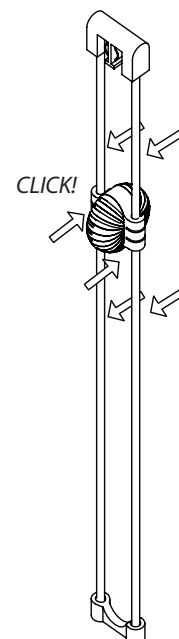

Fig. 7
3. Place the index and middle fingers of each hand on the hanger rods on either side of the Ladder Light and press firmly on both sides of the Ladder Light with the thumbs until the Ladder Light fully clicks into place. (Fig. 7)
4. Install the Cylinder Light Engine to the Hub by inserting the contacts on the Hub into the slots on the Light Engine (Fig. 7), then twisting the Light Engine to the ends of the slots. (Fig. 8)